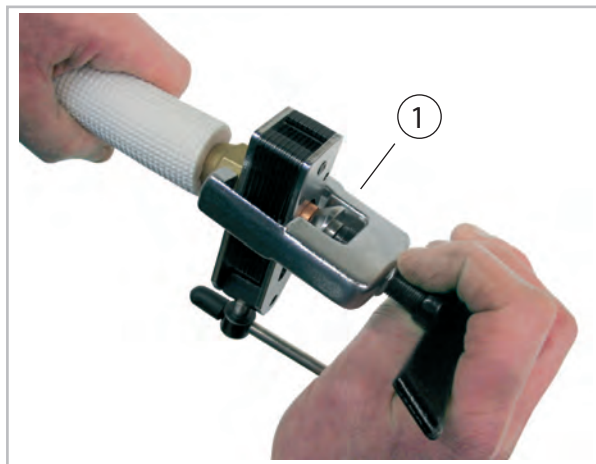
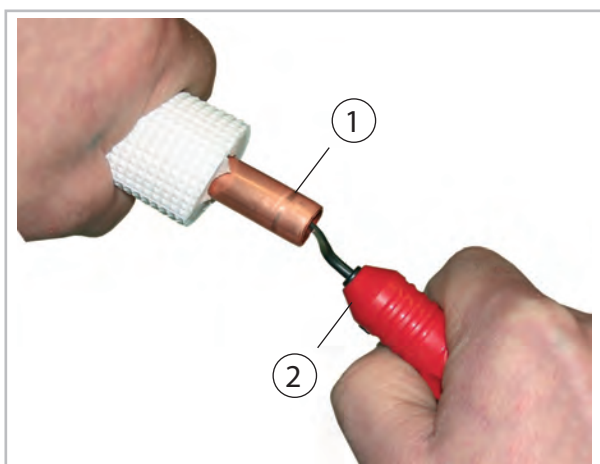

Fig. 31: Flanging the refrigerant piping
Fig. 30: Deburring the refrigerant piping
8. ➤ Prepare the laid refrigerant pipings as shown below (Fig. 30 and Fig. 31).